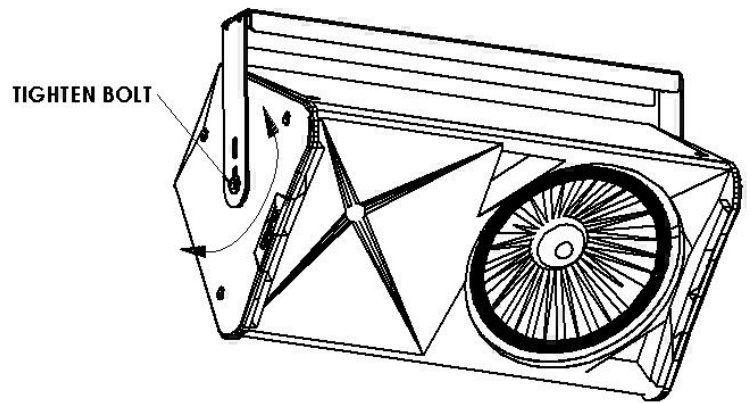

Figure 2
Step 4: Rotate the loudspeaker into the desired direction then tighten the side bolts permanently (Figure 2).